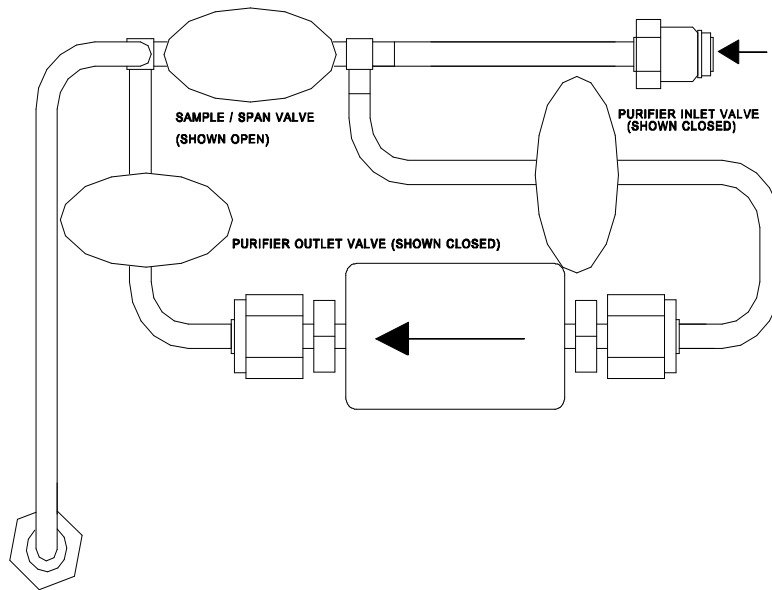

Figure 57: Valve Handle Positions When Changing the Gas Purifier
1. The analyzer must be in the process measurement mode by placing the valve handles in the positions as shown in Figure 57: Valve Handle Positions When Changing the Gas Purifier
5. Install the purifier with the flow direction arrow as shown in Figure 57. It may be necessary to slightly spring the calibration system plumbing to insert the gas purifier.